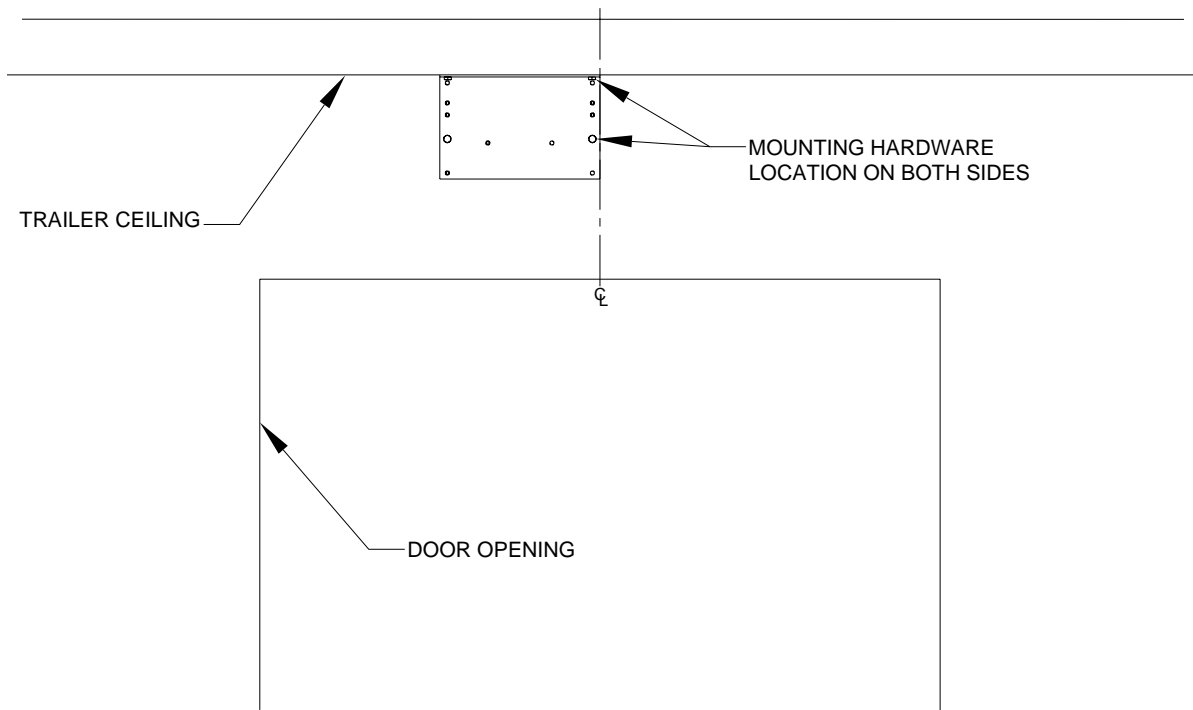

FIG. 1
2. Mark two mounting holes on the plate and two mounting holes on top flange as shown in Fig. 1. Pre-drilling these holes will make for easier installation. The screws should be long enough to go through the top header plate or something that will support the load of the assembly.